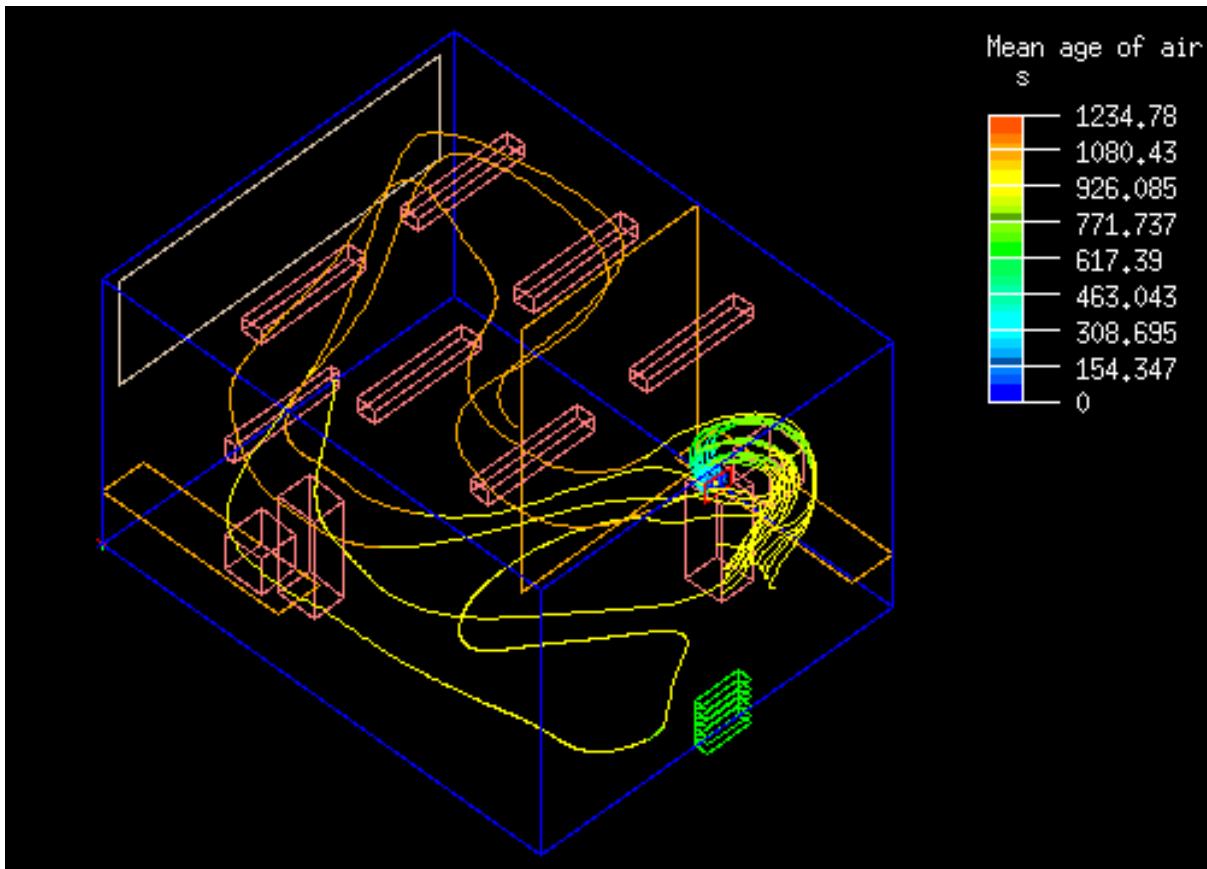

Figure 28.2.16: Particle Trace Plot
A particle trace represents the path of a hypothetical “massless” particle through the model. The path of the particle is based on the computed flow field. Particle traces provide information similar to that obtained by introducing dye or smoke into the fluid of a real model. They are used primarily to observe flow in the model (e.g., to display the path of an air stream coming from a fan, as shown in Figure 28.2.16).
- **Reverse direction** can be used to reverse the direction of the particle traces by tracing their path prior to their introduction at an object face, plane cut, isosurface, or point (e.g., to display the path of an air stream coming into and exiting the outlet vent shown in Figure 28.2.16).